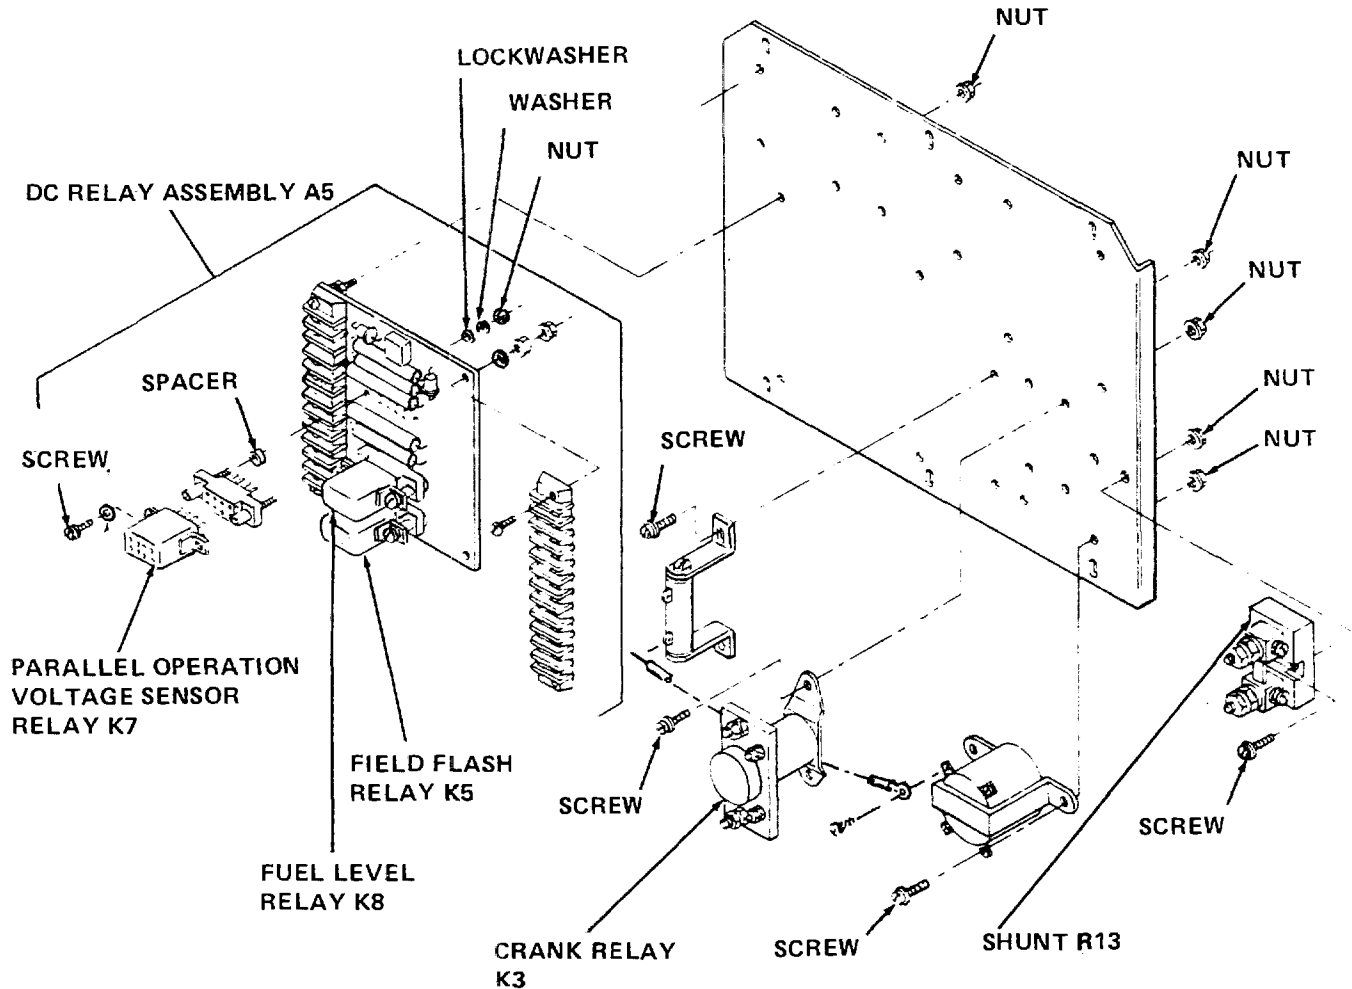

Figure 4-20. Electronic Component Assembly, A27,
a. Removal. Remove relay being tested as illustrated in figure 4-20.
- (1) Temporarily disconnect connector P5 from mode I relay box.
- (2) Connect a multimeter (set to RX1 scale) across terminals A1 and A2 of relay K3.
- (3) Connect a 24 V dc supply across terminals X1 and X2 of relay K3.
(4) Observe that multimeter reads less than 1 ohm.
(5) Disconnect 24 V dc supply.
(6) Observe that multimeter reads infinite ohms.
(7) Repeat steps (3), (4), and (5), and (6) several times to ensure that relay works consistently.
(7) Connect multimeter across pins 4 and 6.
(8) Reconnect 24 V dc supply to pins 2 and 7.
(9) Observe that multimeter reads less than 1 ohm.
(10) Disconnect 24 V dc supply.
(11) Observe that multimeter reads infinite ohms.
(12) Repeat steps (2) through (11) several times to ensure that relay works consistently.
(13) If multimeter does not produce required reading, relay is defective and must be replaced.
f. Installation. Install relay as illustrated in figure 4-20.